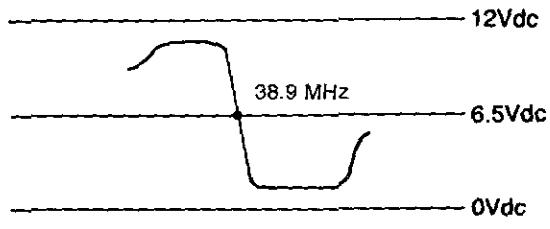

Figure 11
- (1) Change the coupling of the input terminal of the alignment scope from the pin 22 to the pin 17 of P101.
- (2) Adjust the sweep waveform of the alignment scope as shown in figure 11.
- (3) Adjust L104 to place the 39.5 MHz marker at the position of D.C.  $6.5 V \pm 0.5$  V as shown in figure 11. At that time the alignment scope must be able to measure D.C. voltage and the AFT switch of the receiver must be located at ON-position. Be sure to adjust after disconnecting C164 from the AFT terminal.